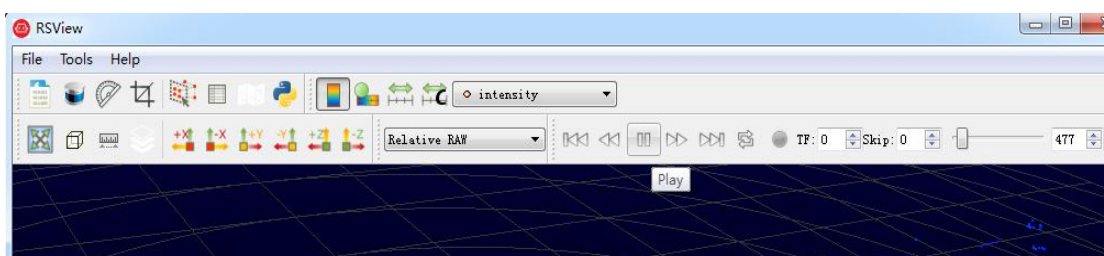

Fig C-7 RSView Play Button
4. Press **Play** to replay/pause the data stream. Use the Scrub slider tool (it looks like an old-fashioned volume slider) to move back and forth through the data frames. Both controls are in the same toolbar as the **Record** button (Fig C-7).